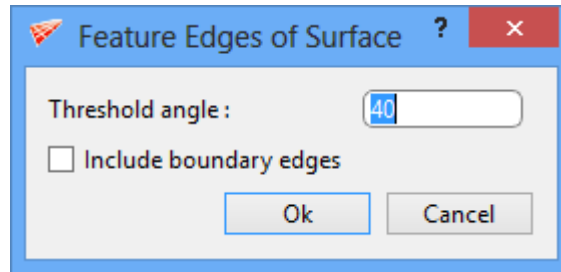

Figure 4.109: Feature edges dialog box
***Feature edges*** is the foremost tool to be used while creating the surface. This creates corners on the *current* surface slope discontinuity using the surface nodes otherwise called as *surface triangulation nodes*. Once the **feature edges** is selected from the drop down list, a dialog box opens as shown in figure 4.109. You need to input the **threshold angle** to calculate/find out where the slope discontinuities are. By default it takes 40 degrees. The feature angle will be calculated at every node on the *current* surface, wherever it exceeds the given feature angle, a corner will be created on that node which will be later linked with the corners created adjacent to it and also assigned to the *current* surface. You can also include/exclude the boundary edges of